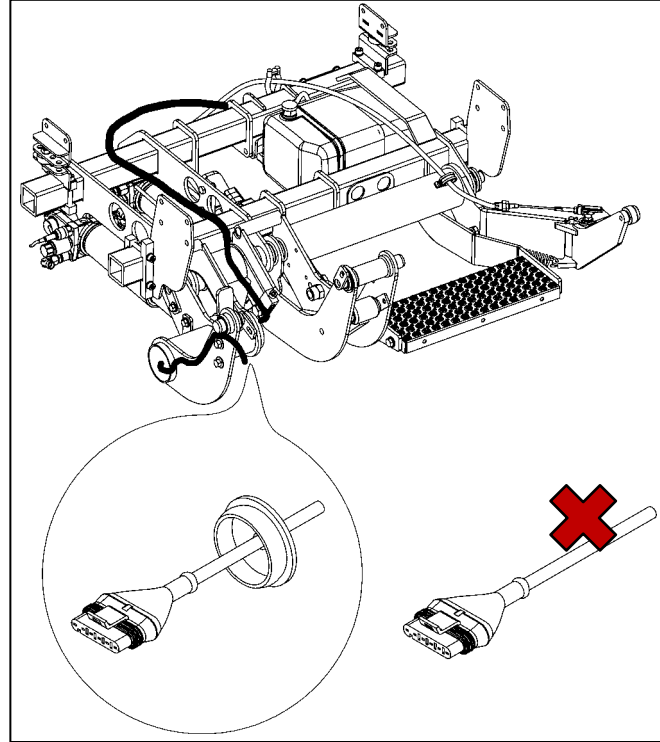

Figure 16
- Route the control unit cable for platform connection (white plastic cover) to the swing-arm assembly in the center of the vehicle (Fig. 16).